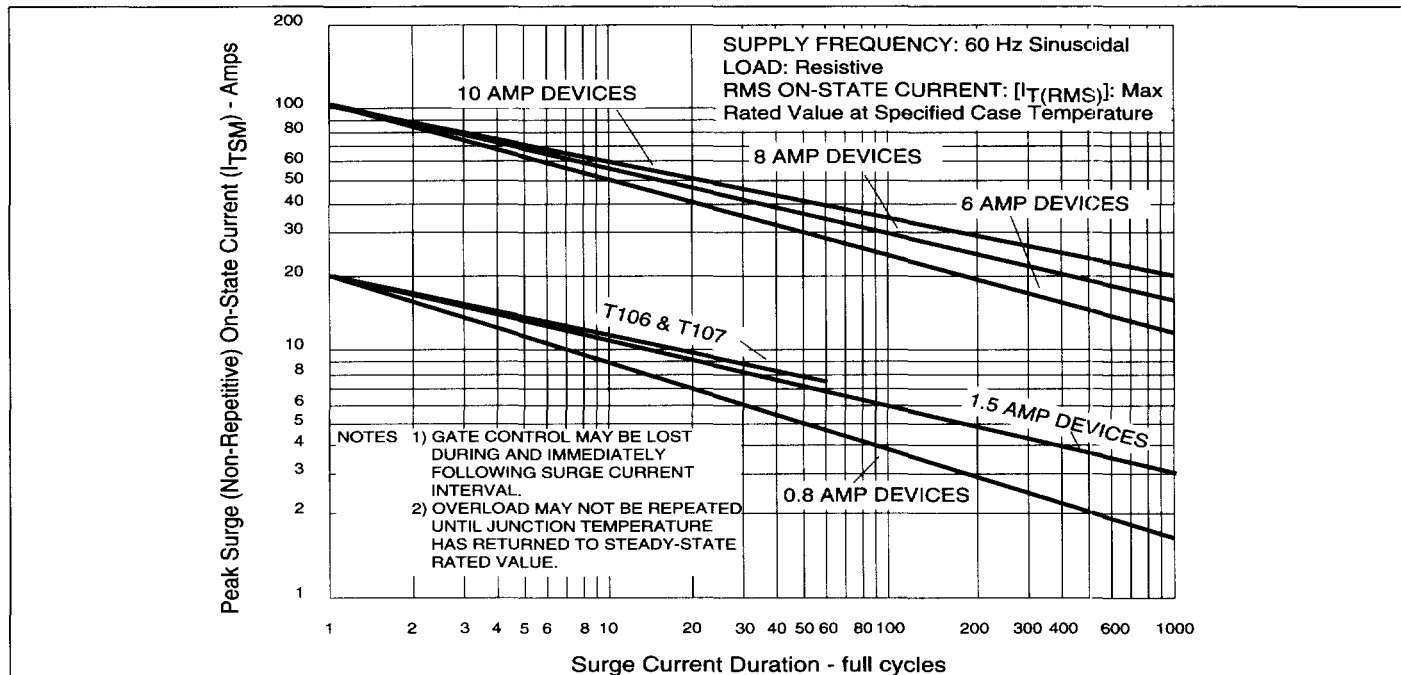

Figure 5.14 Peak Surge On-State Current vs Surge Current Duration
- (6) For more than one full cycle, see Figure 5.14.